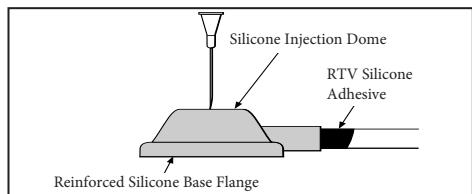

FIGURE 3
- a) Insert a new, sterile, 21-gauge needle (or smaller) into the injection site. Ideally, the needle should enter perpendicularly to the top of the injection site as shown in Figure 3.